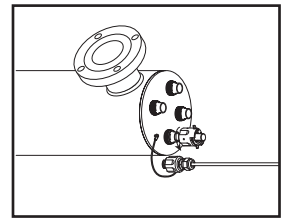
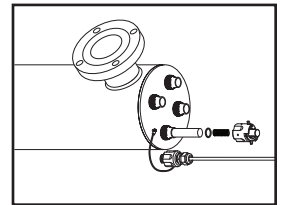

FIGURE 3A
FIGURE 3B
- Remove the retaining nuts by turning counter clockwise (Figure 3a). Drain chamber through drain port. Grasp the quartz sleeve and fully remove from the reactor chamber. Remove both o-rings. As with the lamp, make sure the sleeves are removed from the reactor chamber being careful not to angle the sleeve as they are removed from the reactor (Figure 3b) to avoid breakage. Make sure not to let the sleeve fall inside the chamber after the sleeve end passes the threaded port.